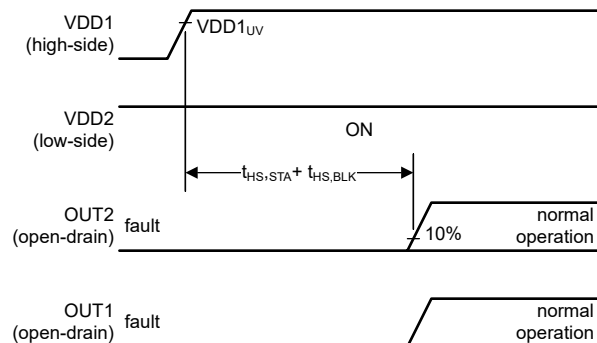

Figure 7-6. VDD2 is On; VDD1 Turns On (Long Delay)
In Figure 7-6, the high-side supply (VDD1) turns on long after the low-side supply (VDD2) turns on. Both outputs are initially in an active-low state, see case (1). After the high-side supply is enabled, there is a duration of $t_{HS,STA} + t_{HS,BLK}$ before the device assumes normal operation and both outputs reflect the current state of the window comparators.